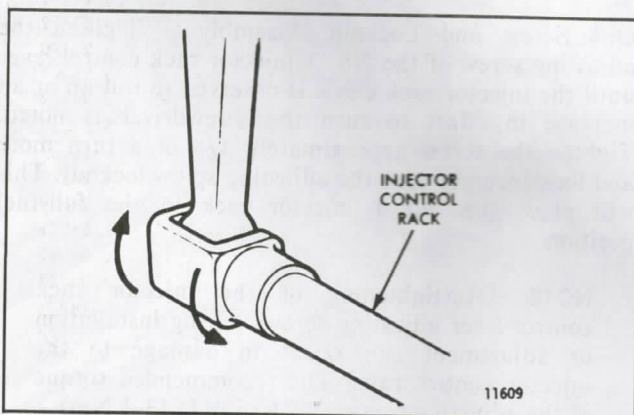
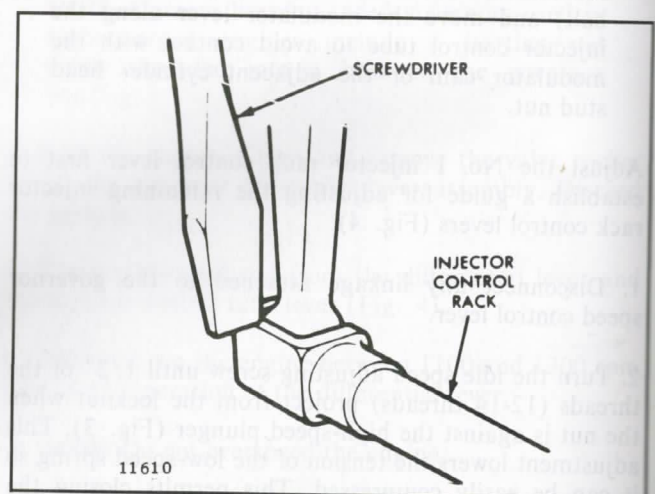

Fig. 5 - Checking Rotating Movement of Injector Control Rack
Fig. 6 - Checking Injector Control Rack "Spring"
6. To be sure of the proper rack adjustment, hold the speed control lever in the maximum speed position and press down on the injector rack with a screwdriver or finger tip and note the "rotating" movement of the injector control rack when the speed control lever is in the maximum speed position (Fig. 5). Hold the speed control lever in the maximum speed position and, using a screwdriver, press downward on the injector control rack. The rack should tilt downward and when the pressure of the screwdriver is released, the control rack should "spring" back upward (Fig. 6).